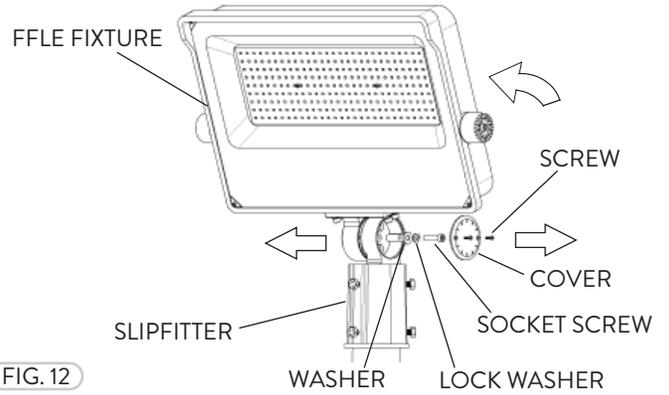

FIG. 12
- 3 The FFLE fixture can be tilted. Remove the Screws (2) on the Slipfitter Cover, remove the Cover, loosen the Socket Head Screw to unmate the teeth of the Fixture Mount and the Slipfitter and rotate (Fig. 12). When the desired tilt angle is adjusted replace all parts in the reverse order.